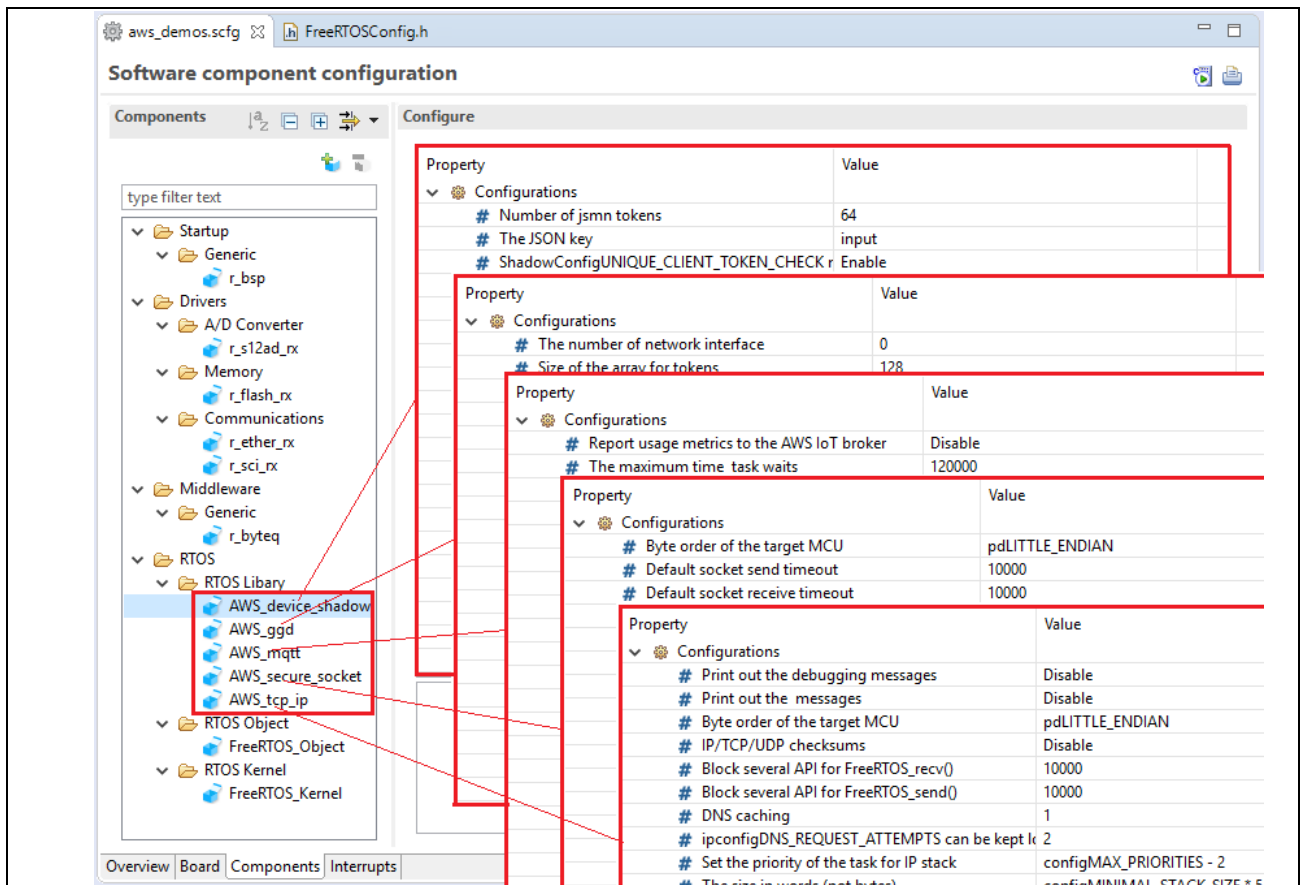

Figure 3-10 Amazon FreeRTOS libraries configuration panel
2. Go to option setting in the right panel to configure these Amazon FreeRTOS libraries as Figure 3-10.